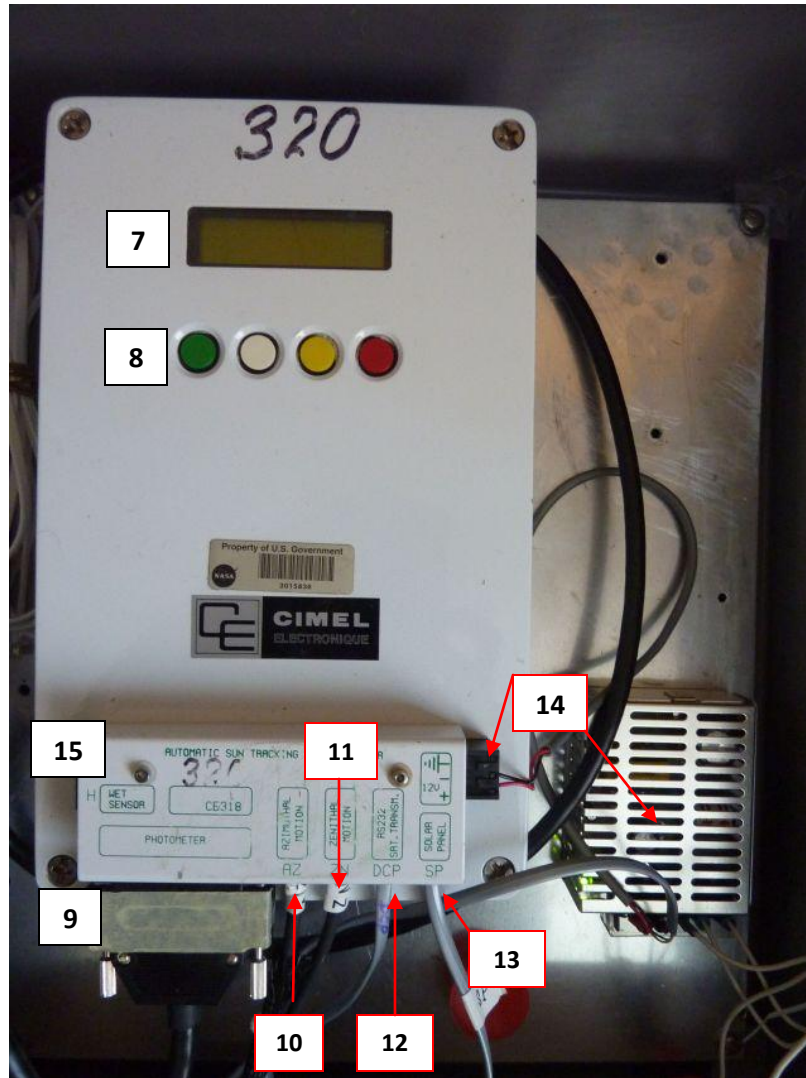

Figure 2
9. If necessary, go inside and attach the cables to the CIMEL Electronics Box as shown in Figure 2 (9-15) above. Connect the rain sensor and pass it through so it is exposed outside from the lower port.